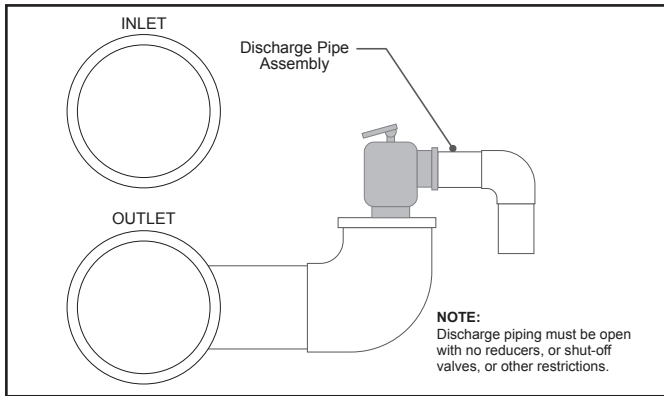

Figure 15. Pressure Relief Valve install
- Using PVC or CPVC plastic pipe and fittings, install a 50 mm (2") tee. See *Figure 15*.